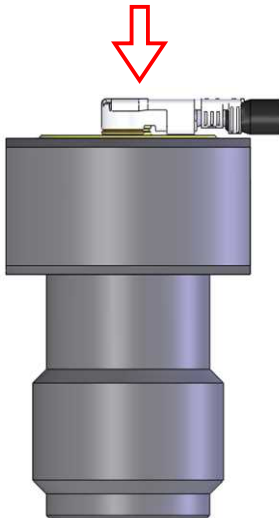
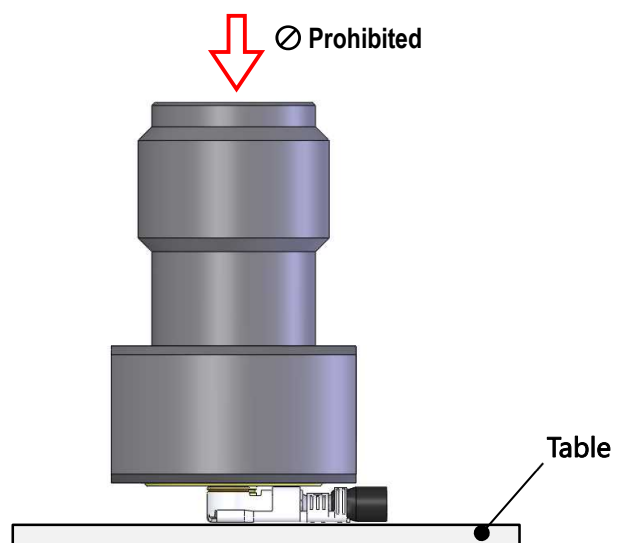

Fig. 6 Correct insertion direction
Fig. 7 Incorrect insertion direction
- In insertion, set the PLUG on the inspection adapter as shown in Fig. 6. Do not set the inspection adapter on the PLUG as shown in the Fig. 7.